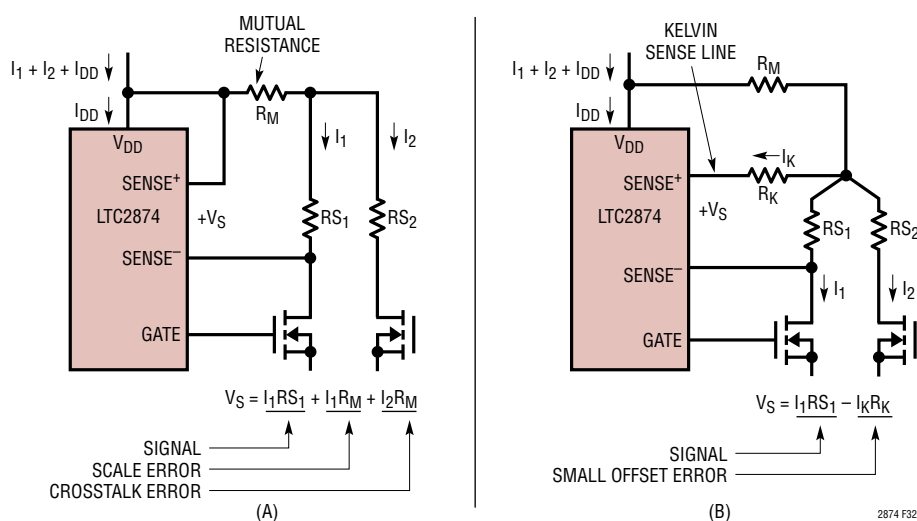

Figure 32. Layout Affects Current Limit Accuracy: (A) Poor and (B) Good Layouts
Figure 32 illustrates the problem. In example Figure 32A, two ports have load currents I_1 and I_2 that connect to V_{DD} through a mutual resistance R_M . R_M represents the combined resistances of any traces, planes, and vias in the PCB that I_1 and I_2 share. The LTC2874 measures the voltage difference between its SENSE+ and SENSE- pins to sense the voltage drop across R_{S1} , but as the example shows, R_M introduces errors.
The second example (Figure 32B) shows how to minimize errors using good layout. The circuit is rearranged so that R_M no longer affects V_S , and the SENSE+ connection to the LTC2874 is used as a Kelvin sense trace. It is not a perfect Kelvin connection because all four ports controlled by the LTC2874 share the same sense trace, and because the current through the trace (I_K) is not zero. However, as the equation in Figure 32(B) shows, the remaining error is a small offset term.